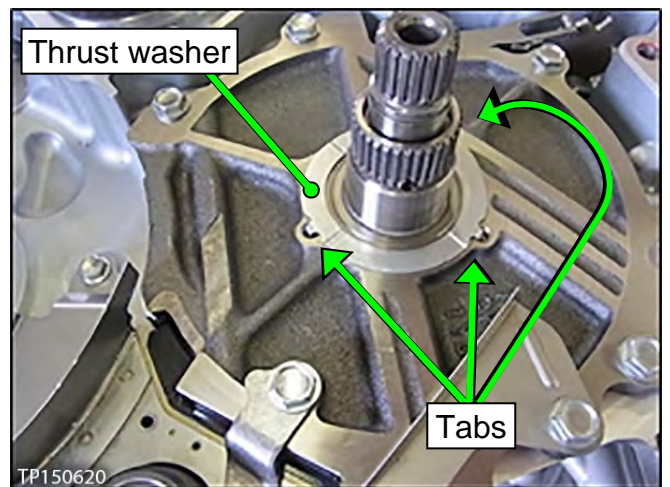

Figure 7I
8. Install the thrust washer onto the dummy cover (Figure 7I).